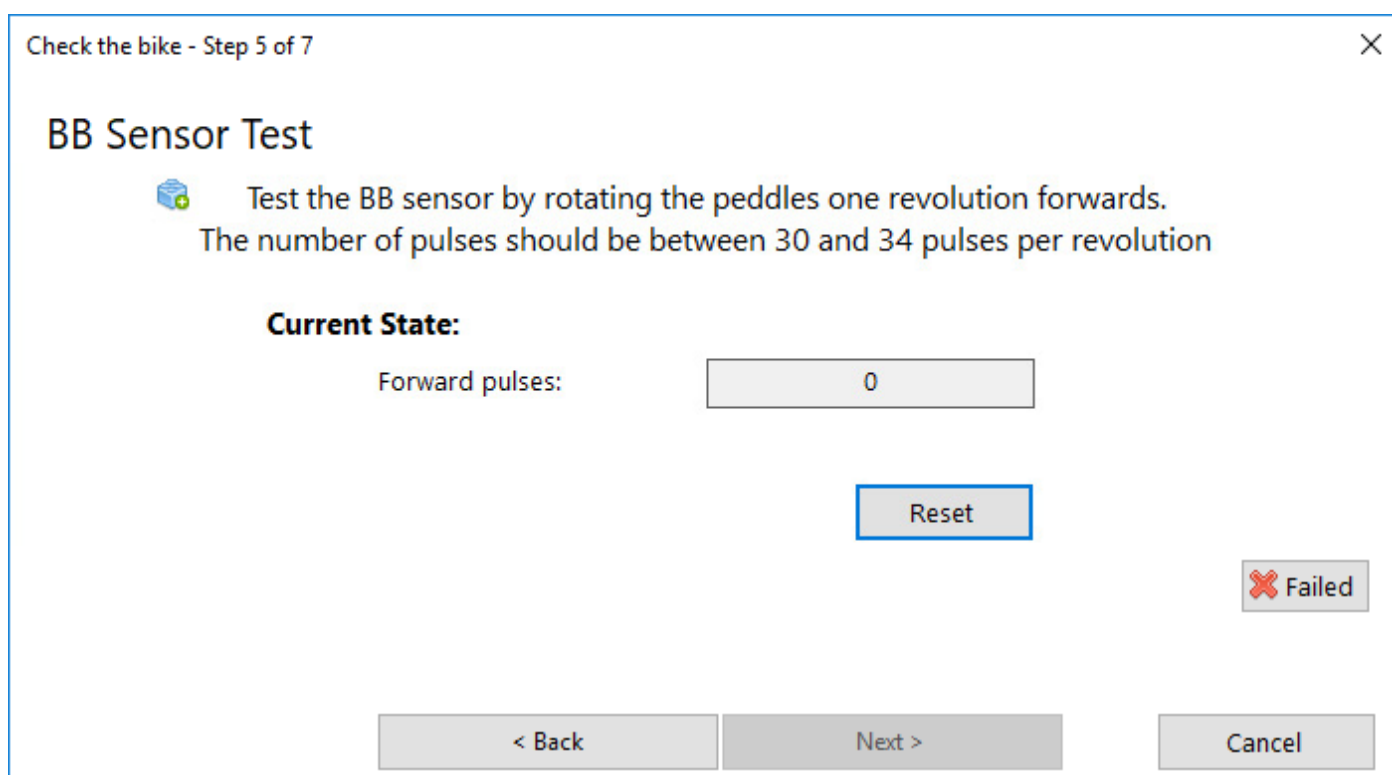

Figure 3.54 Bottom bracket set sensor test
5. **Bottom bracket sensor test** – rotate the pedal one turn in the forward direction and verify the operation of the bottom bracket sensor (Fig. 3.54). Depending on what bottom bracket set is used (revolution or torque revolution sensor), a different number of pulses is required to successfully complete this test. Click “Reset” and repeat the test if you are unable to generate the required quantity of pulses during a single rotation. Click on “Failed” if the test cannot be passed after the 3rd attempt.